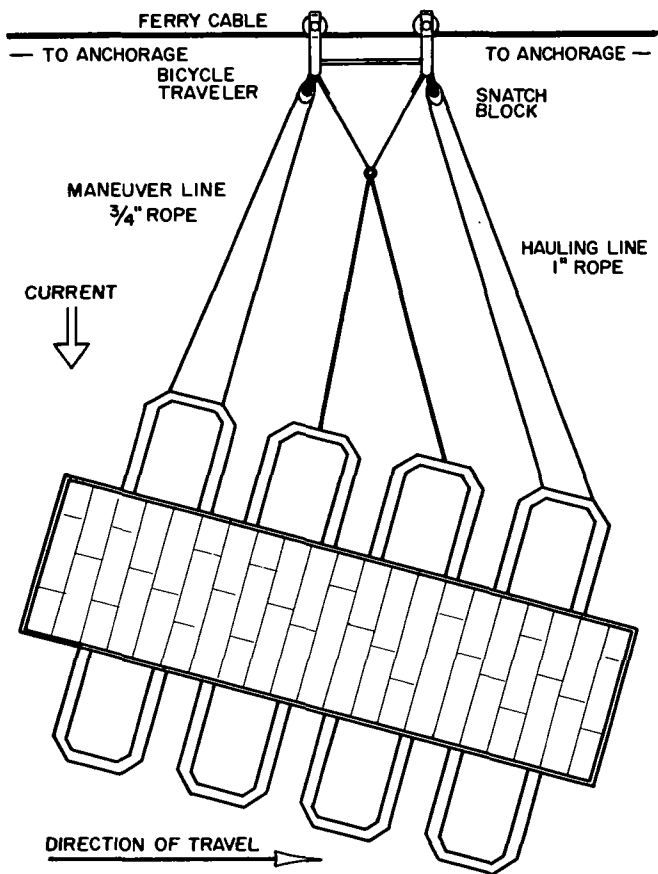

Figure 204. Trail ferry.
a. Trail Ferry. A trail ferry (fig. 204) consists of a raft connected by hauling and maneuvering lines to a bicycle traveler which runs on a ferry cable stretched across the stream and secured to holdfasts on both shores. The force of the current acting against the canted pontons of the ferry